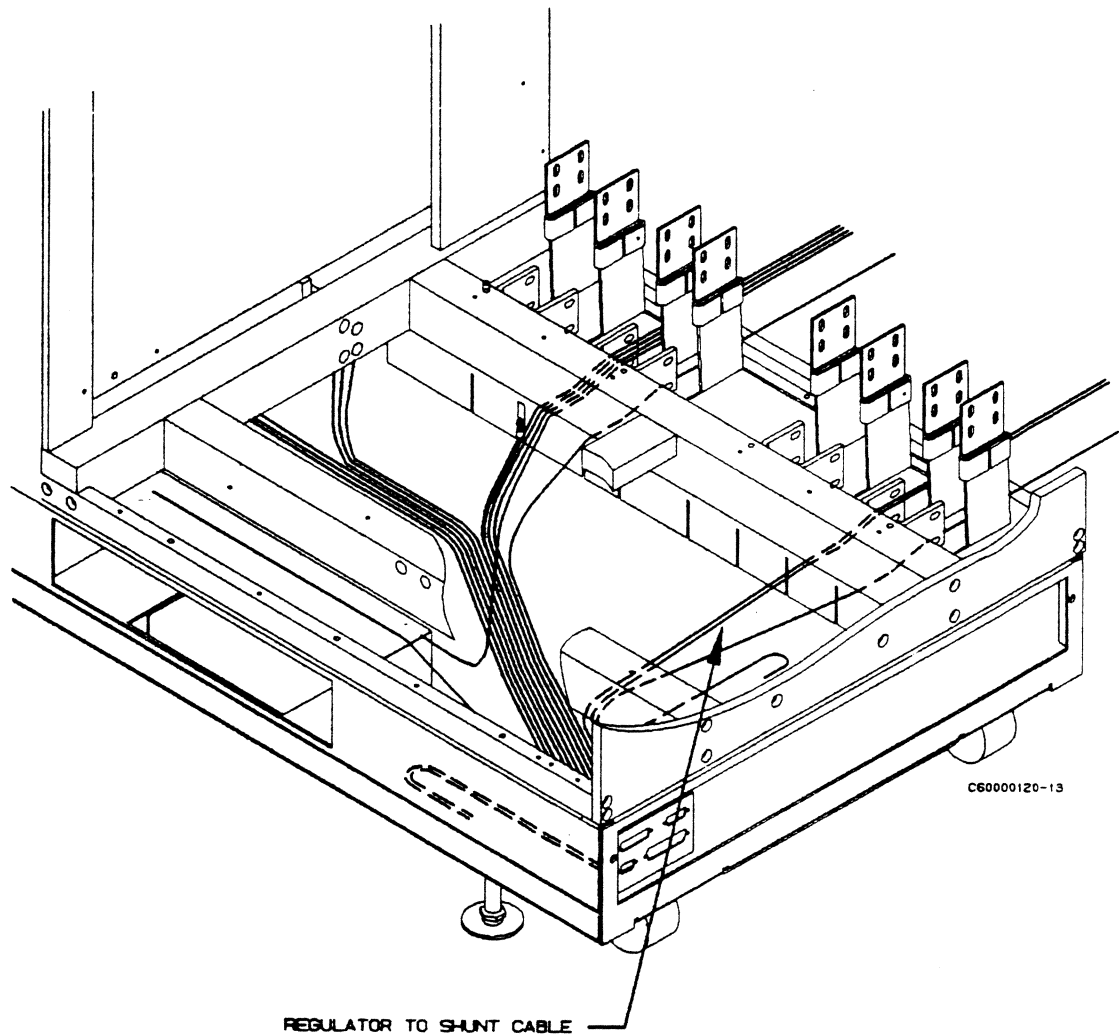

Figure 3-17. Regulator-to-Shunt Cable Location
- ___ 2. Push lugged end of cable (marked SH+ and SH-) between aluminum frame member and foam air seal in base. Position lugged end near WV2 (figure 3-17).